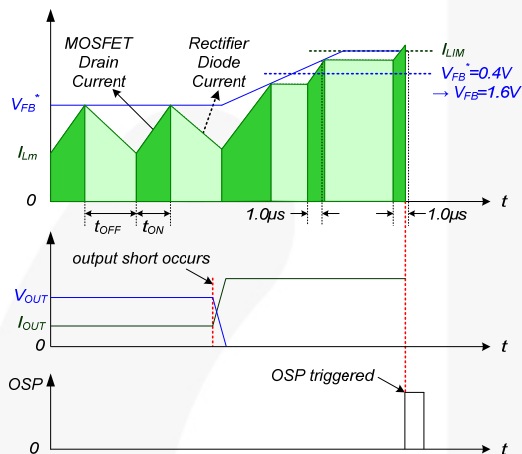

Figure 22. Output-Short Protection
4.3. Output-Short Protection (OSP): If the output is shorted, steep current with extremely high di/dt can flow through the SenseFET during the minimum turn-on time. Such a steep current brings high-voltage stress on the drain of the SenseFET when turned off. To protect the device from this abnormal condition, OSP is included. It is comprised of detecting V_{FB} and SenseFET turn-on time. When the V_{FB} is higher than 1.6V and the SenseFET turn-on time is lower than $1.0\mu s$, the FSGM300N recognizes this condition as an abnormal error and shuts down PWM switching until V_{CC} reaches V_{START} again. An abnormal condition output short is shown in Figure 22.